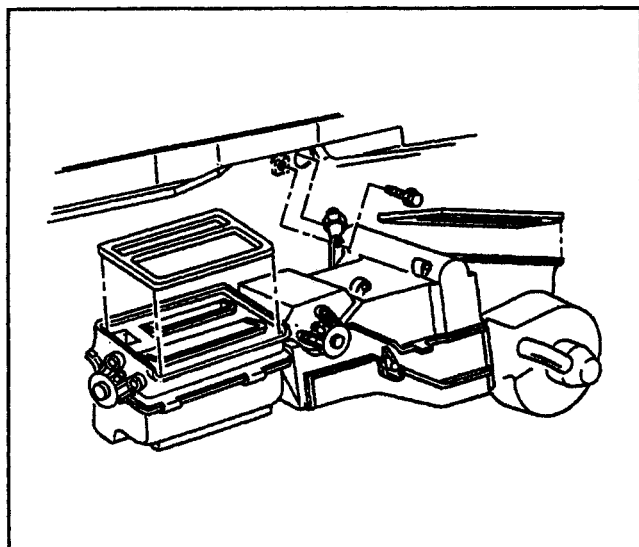

Figure 10—Heater Case (1 of 2)
Remove or Disconnect (Figures 10 and 11)
→→ Install or Connect (Figures 10 and 11)
→→ Remove or Disconnect (Figures 10 and 11)
12. Screw on interior side of cowl, near the evaporator pipe (if equipped) while holding heater case to the cowl (Figure 10).